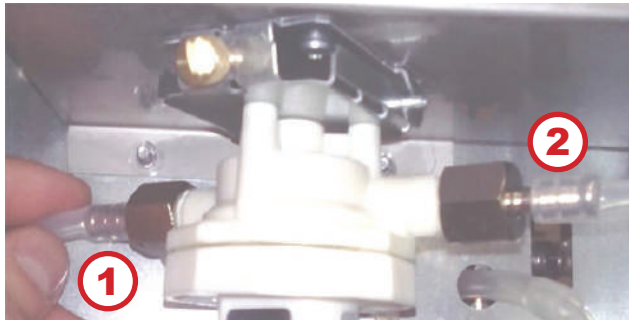

Fig.11.5
3. Disconnect the milk circuit (1 and 2) from the flow meter (see fig. 11.5).